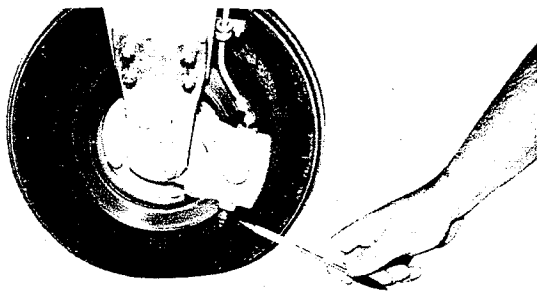

FIGURE 8-1 BRAKE ASSEMBLY BLEEDER VALVE
2. Bleed the fluid from the brake system by removing the bleeder valve in the bottom of the brake assembly (Figure 8-1).